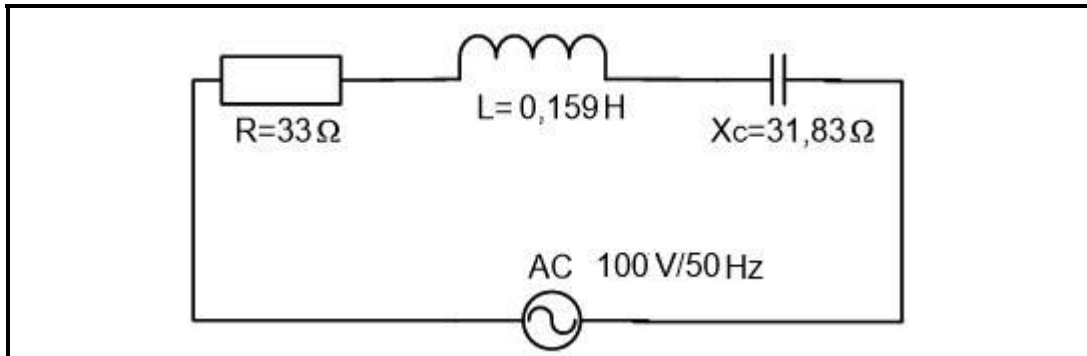

FIGURE 5.5
- 5.5 Refer to the circuit diagram in FIGURE 5.5 and answer the questions that follow.